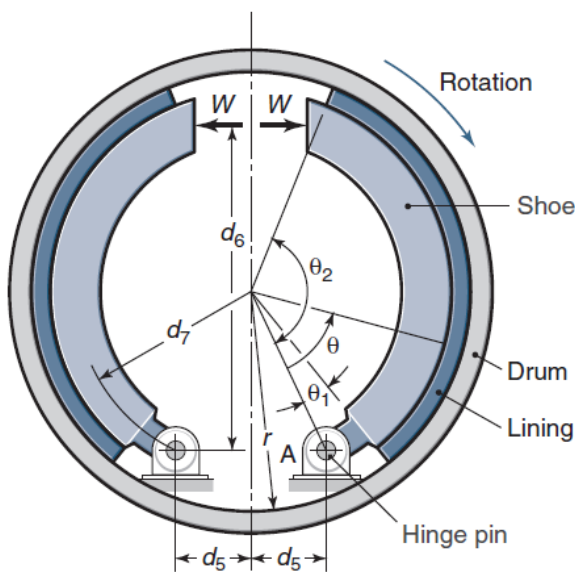

Figure 1
1. A long-shoe brake in a car is designed to give as high a braking torque as possible for a given force on the brake pedal, as shown in Figure 1. The ratio between the actuating force and the pedal force is given by the hydraulic area ratio between the actuating cylinder and the cylinder under the pedal. The brake shoe angles are $\theta_1 = 10^\circ$ and $\theta_2 = 170^\circ$. The maximum brake shoe pressure is 5 MPa, the brake shoe width is 40 mm, and the drum radius is 100 mm and d_5 equals to 25 mm. Find the distance d_7 that gives the maximum braking power for a coefficient of friction of 0.2. What braking torque would result if the coefficient of friction was 0.25?